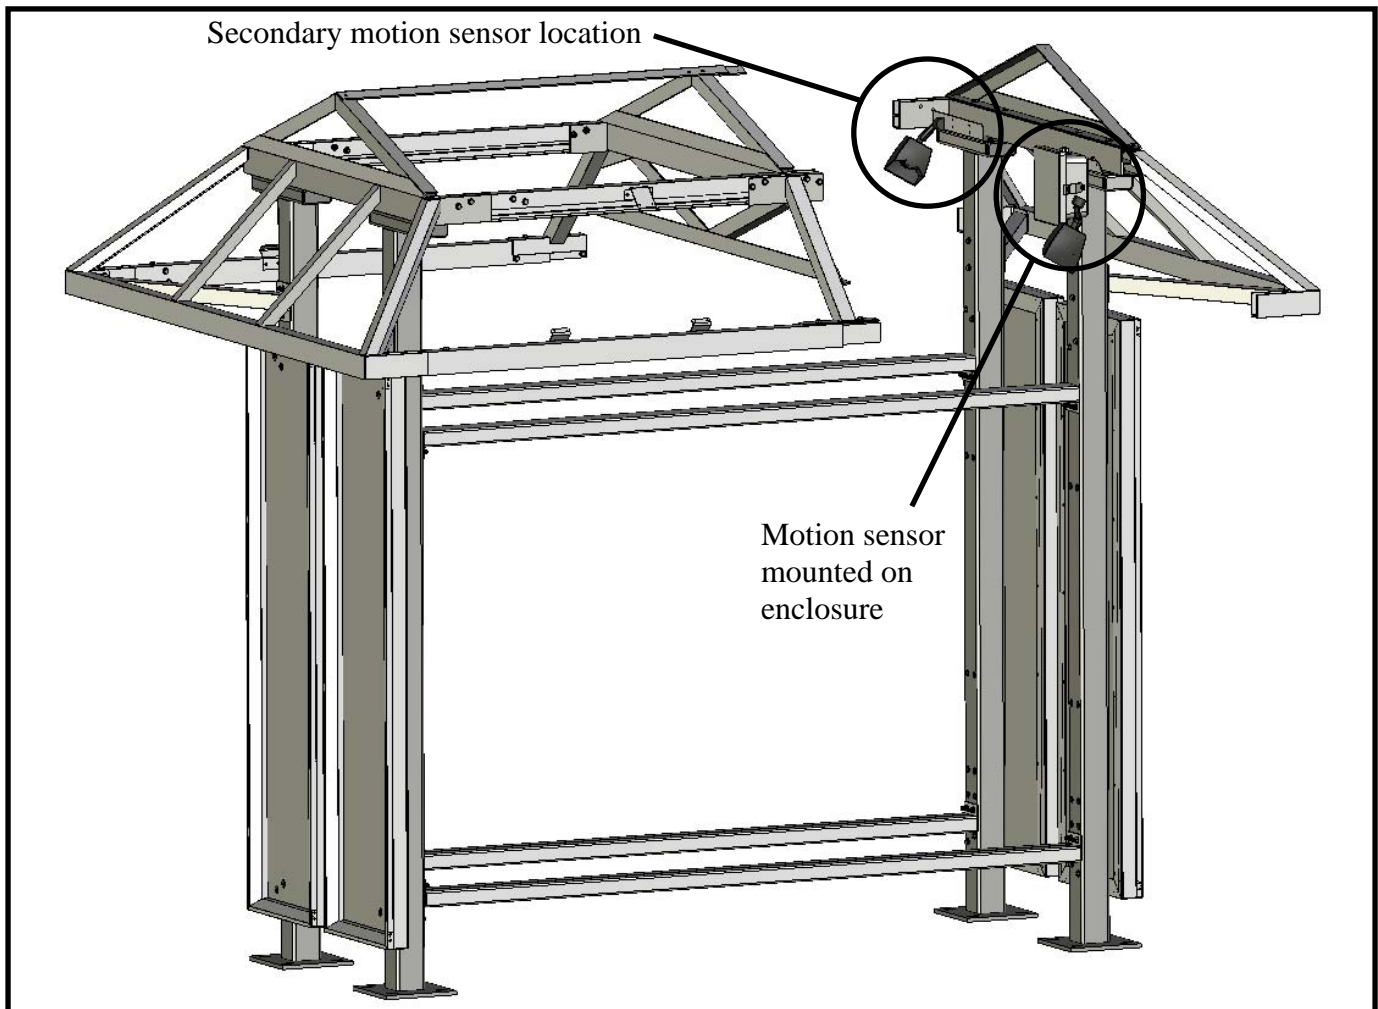

Figure 13
- a) See Figure 13 for the mounting location of the secondary motion sensor.